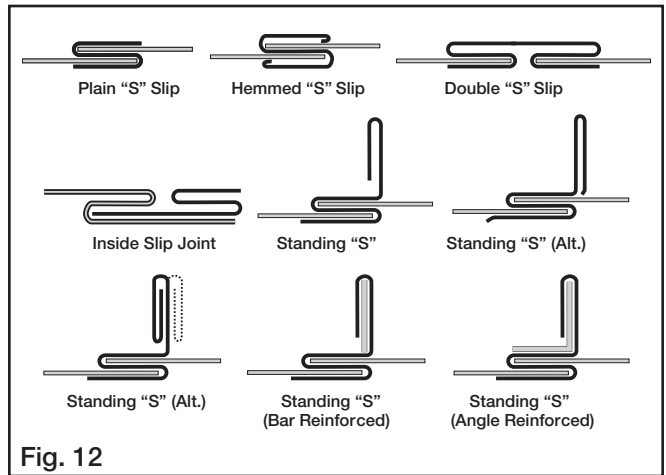

Fig. 12
- The breakaway connections shown to the right (Fig. 12) can be applied with maximum of two #10 (19mm) sheet metal screws on each side and on the bottom located in the center of the slip pocket and penetrating both sides of the slip pocket.